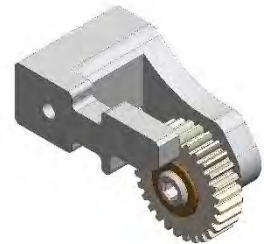

Figure 28
- 1401.200-003 → Clockwise rotation Module. Fig.28.